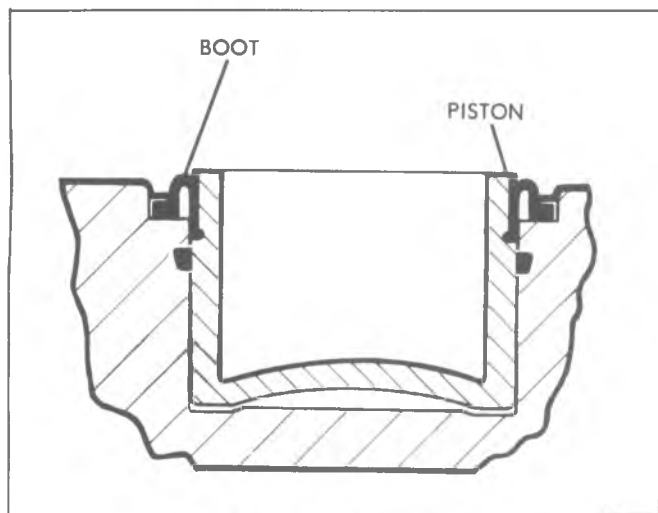

Fig. 5-24-Boot Installation
2. Examine the inside of the caliper for evidence of fluid leakage. If leakage is noted, the caliper should be overhauled. Wipe the inside of the caliper clean, including the exterior of the dust boot. Check the boot for cuts, cracks or other damage. Make sure that the boot is properly engaged in the groove in the piston and also in the caliper counter-bore (fig. 5-24).